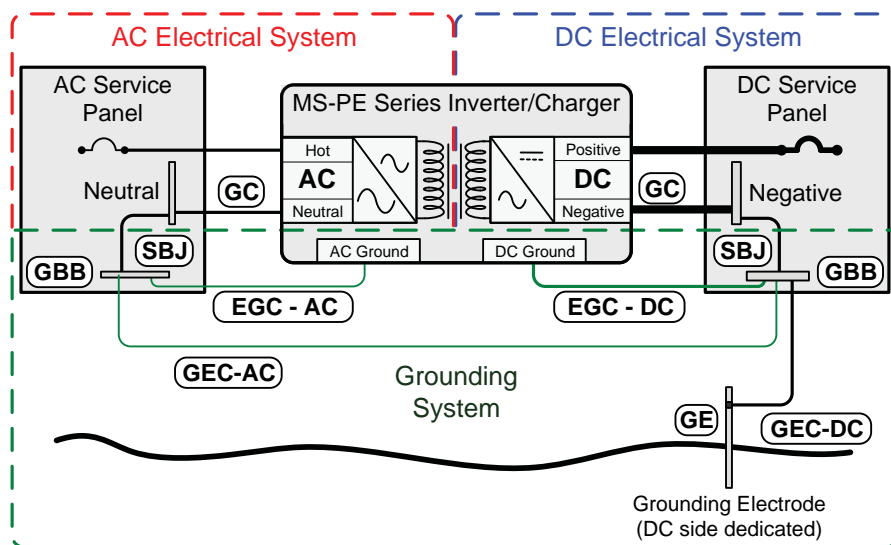

Figure 2-13, Single Connection to DC Ground Rod (Method 3)
- Method 3 (Figure 2-13):** The AC grounding electrode conductor (GEC-AC) is bonded to the DC ground point and the DC grounding electrode conductor (GEC-DC) is the *only connection* to the grounding electrode (GE), which must be a rod, pipe, or plate electrode. In this method, since there is only one connection to the ground rod, the DC grounding electrode conductor (GEC-DC) is not required to be larger than 13.3 mm² (#6 AWG) copper. The reasoning for allowing this smaller grounding electrode conductor is that it is only required to stabilize the system voltage with respect to earth, and the other properly sized conductors in each electrical system will safely carry any fault currents if they occur.